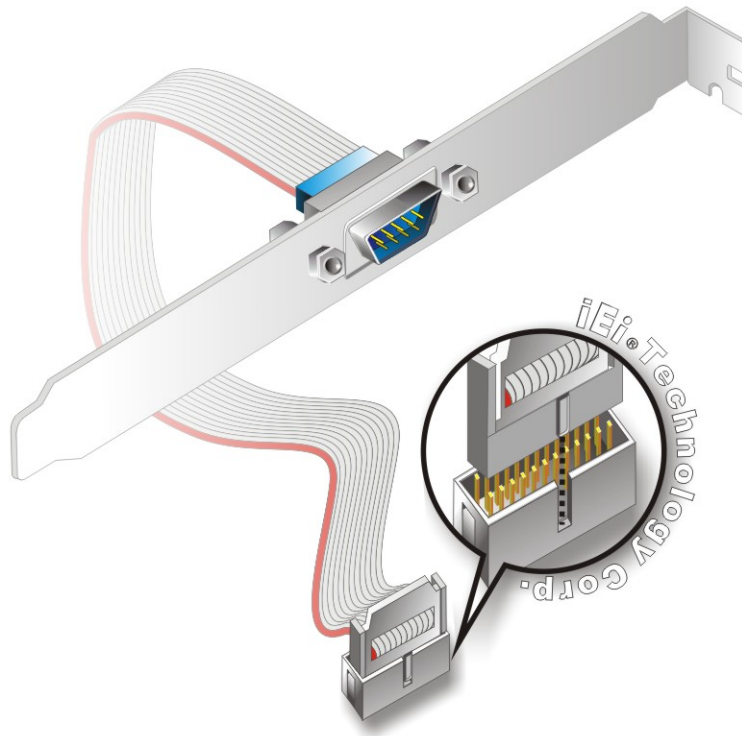

Figure 5-13: Single RS-232 Cable Installation
Step 2: Insert the cable connector. Insert the connector into the serial port box header. See **Figure 5-13**. A key on the front of the cable connectors ensures the connector can only be installed in one direction.